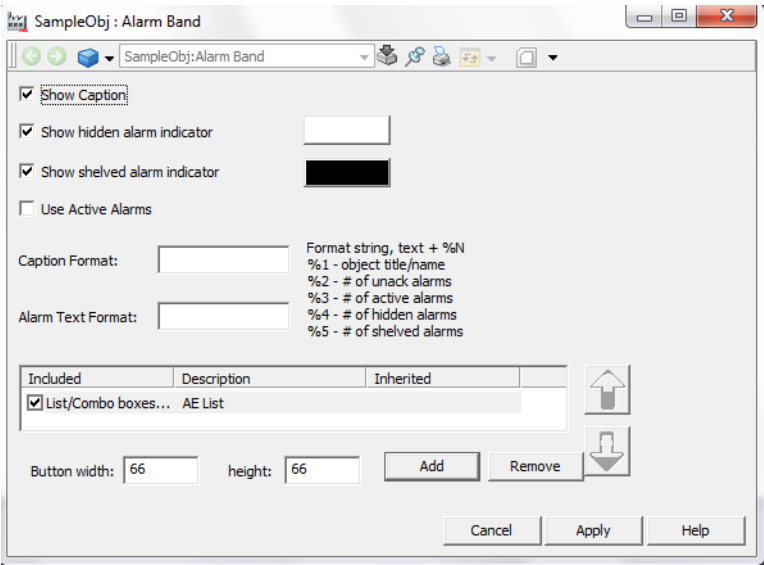
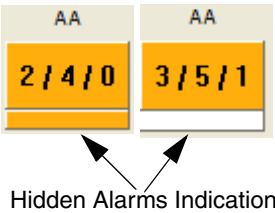

Figure 67. Alarm Band Aspect - Config View
Figure 68. Hidden Alarms Indication
2. Create an Alarm Band aspect and open its Config View, see Figure 67.
The result of the configuration according to Figure 67, is displayed in Figure 68.
Hidden Alarms in the Alarm Band. The alarm band shows an indication of hidden alarms. It indicates the fact that alarms are hidden and it provides a link to open the list of Hidden alarms. In Figure 68 the alarm band to the left indicates that there are 2 unacknowledged, 4 active and 0 hidden alarms and the band to the right indicates